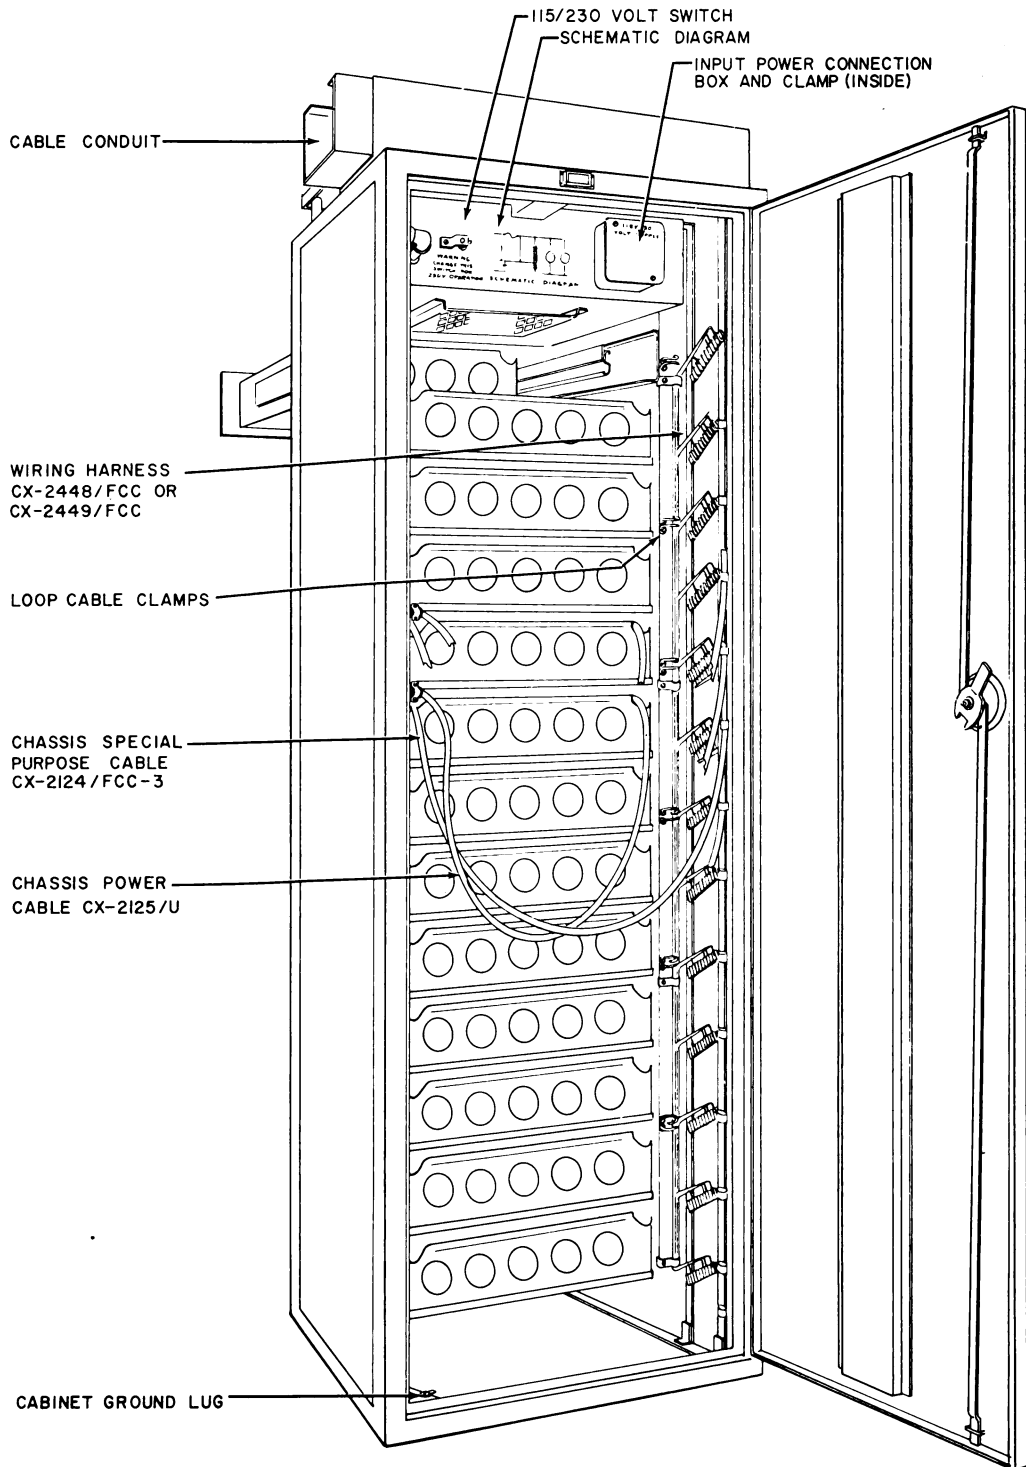

Figure 3-4. Rear View of Cabinet with Wiring
b. **INSTALLATION WIRING.** - Figure 3-4 shows a rear view of a partially wired cabinet. The telegraph loop circuits must be wired at the time of installation to meet the over-all requirements of the particular installation and, wherever possible, these circuits should be identical to facilitate patching. In minor installations not having a common battery supply, the preferable loop connection is with the battery supplied from the AN/FCC-3. Clamps are provided along the vertical mounting bracket on the left side of the cabinet and are designed to hold the cabled loop circuit lines and keep them separate from the other wiring. The incoming lines to the cabinet can enter either through